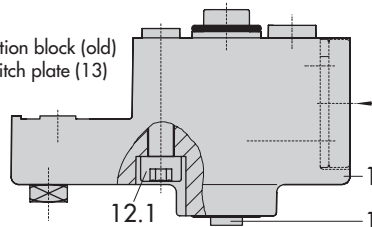

Fig 4 · Direct attachment – Signal pressure connection for Type 3277 Actuator with 240, 350 and 700 cm2
1. Place follower clamp (3) on the actuator stem, align and screw tight so that the mounting screw is located in the groove of the actuator stem.
2. Mount cover plate (10) with narrow side of the cut-out opening (Fig. 4, on the left) pointing towards the signal pressure connection. Make sure that the bonded gasket (14) points towards the actuator yoke.
3. For actuators with 700 cm2, remove the follower pin (2) at lever **M** (1) on the back of the positioner from pin position **35**, reposition it in the bore for pin position **50** and screw tight.
fixing screws and the cover. Then reposition the gasket (16) turned by 180°. The previous version of the connection block (Fig. 4, bottom) requires the switch